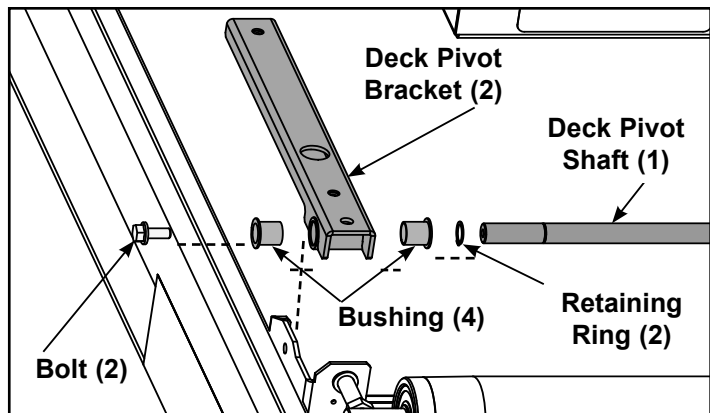

Figure 7
- With the deck pivot shaft out of the unit, remove the deck pivot brackets, bushings and the retaining rings. See Figure 7.
- Install the retaining rings, bushings and the deck pivot brackets. See Figure 7.
- Using a 9/16" socket wrench, install the two bolts securing the deck pivot shaft to the frame. See Figure 7. **NOTE:** Make sure the deck pivot brackets are installed correctly.